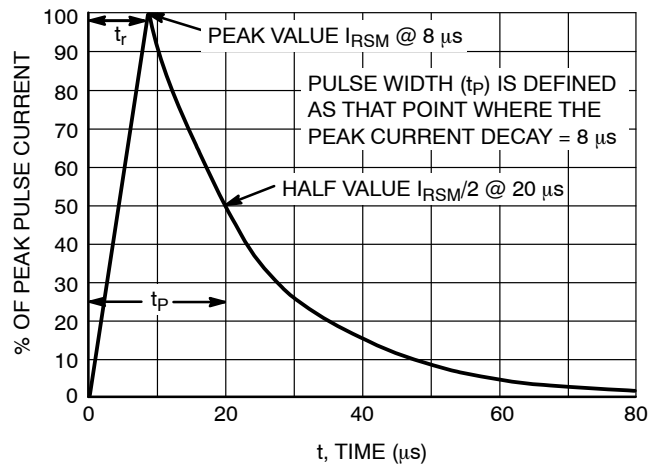

Figure 2. $8 \times 20 \mu s$ Pulse Waveform
1. Non-repetitive current pulse per Figure 2
5. Surge current waveform per Figure 2